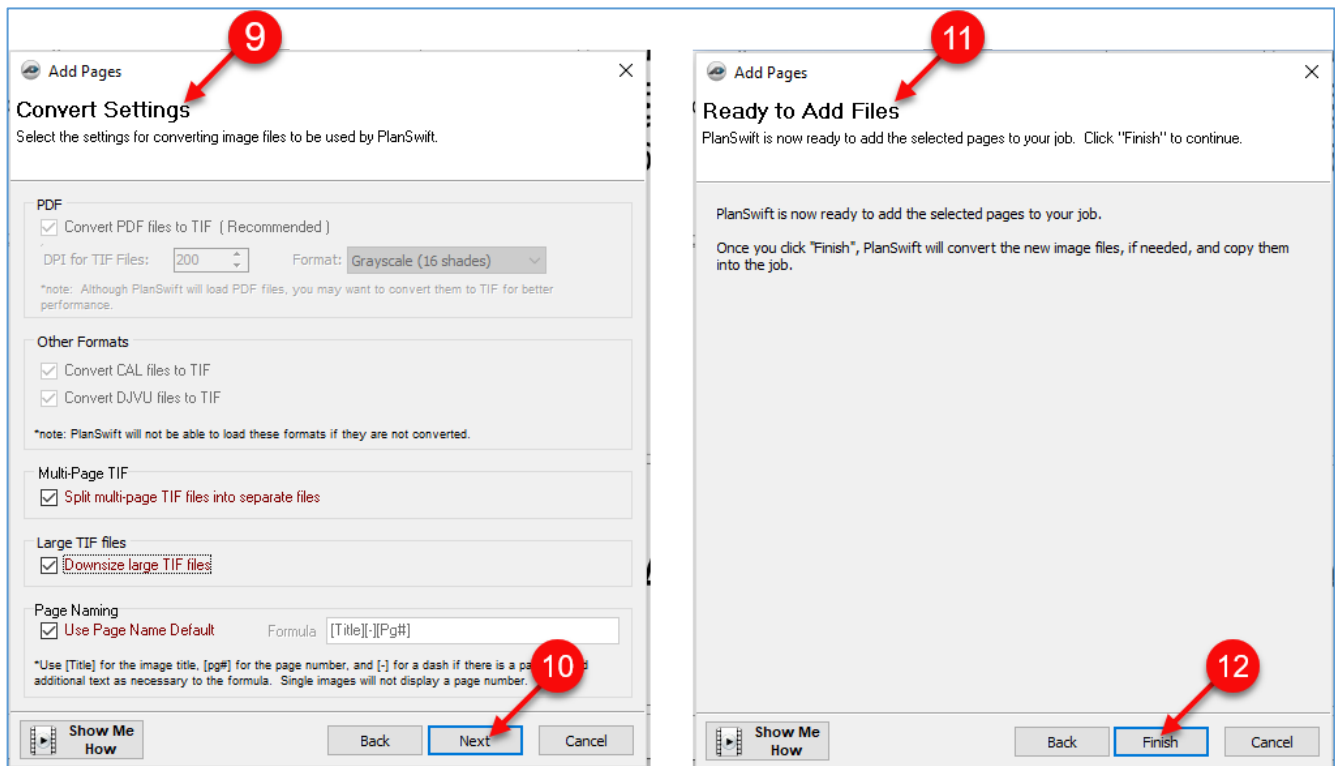

Figure 6-C
13. If you want to add a blank page, click on **Blank Page** from the **Add Pages** window (Fig. 6-D).